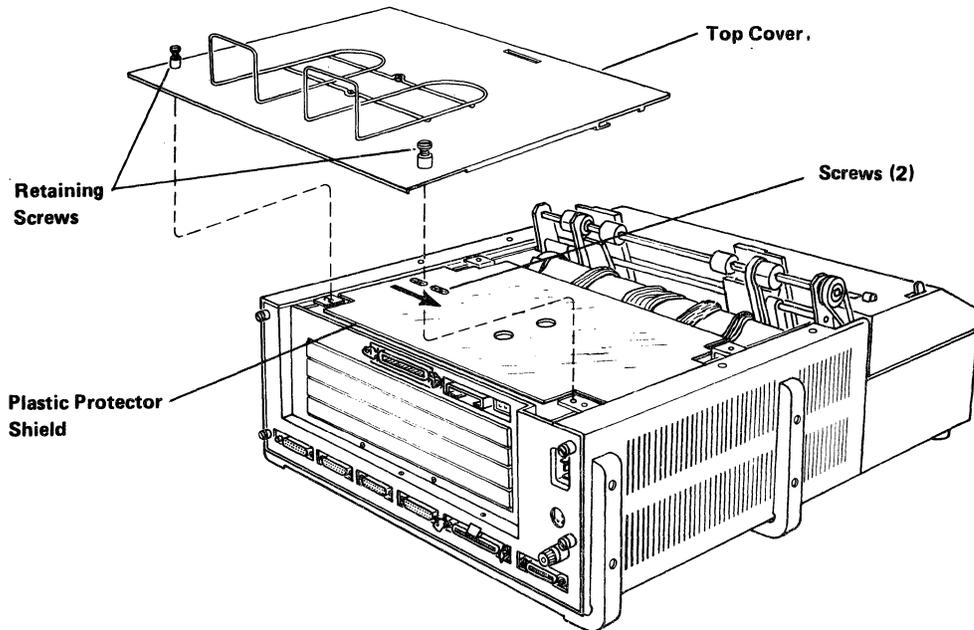

Figure 4-19. Processor Unit Top Cover and Plastic Protector Shield.
8. Remove the processor unit top cover by loosening the two (2) retaining screws, sliding the cover straight back toward the rear of the processor unit and lifting. Move the cover to a safe place. (See Figure 4-19).
9. Remove the plastic protector shield above the printer/plotter control board by loosening two (2) screws and sliding the plastic mount retainer inward toward the center of the unit. Then slide the shield assembly toward the rear of the housing and remove it. (See Figure 4-19).
6. Replace the plastic protector shield above the printer/plotter control board and secure it using the two (2) retaining screws. (See Figure 4-19).
7. Replace the processor unit cover by placing the cover on the unit and sliding it forward toward the printer/plotter. Secure the cover in place by tightening the two (2) retaining screws on top of the cover. (See Figure 4-19).